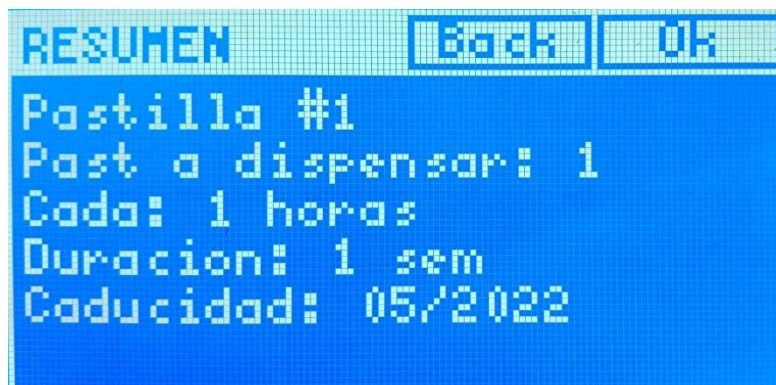

Figure 14- Summary Screen
9. Verify that the information entered has been correct on the "Summary" screen (Figure 14) and press the **Ok button** to advance to the next screen.